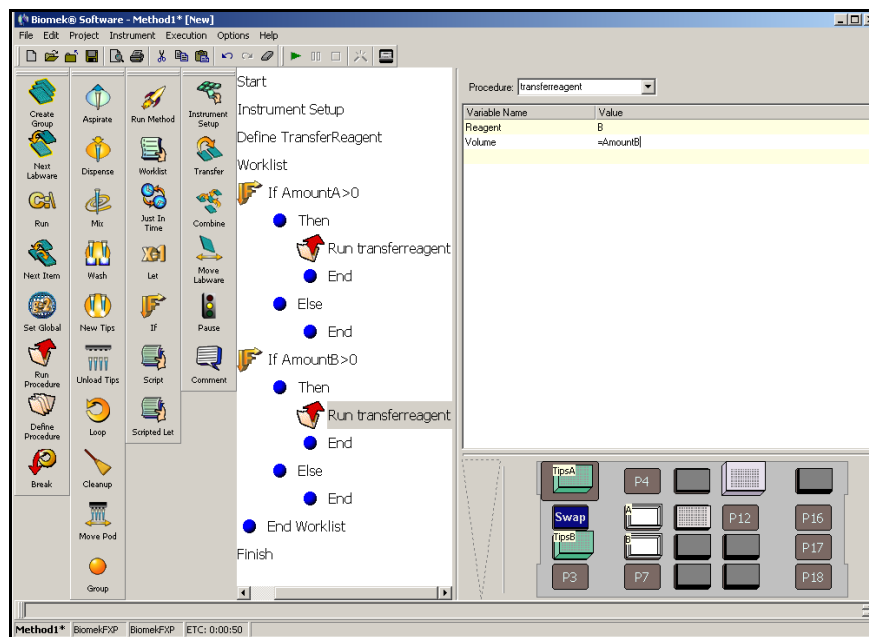

Figure 4-10. Variable name and value changed
10. Change the Value for Volume to **=AmountB**. You won't use an Else substep here either, so the main editor should look like Figure 4-10.